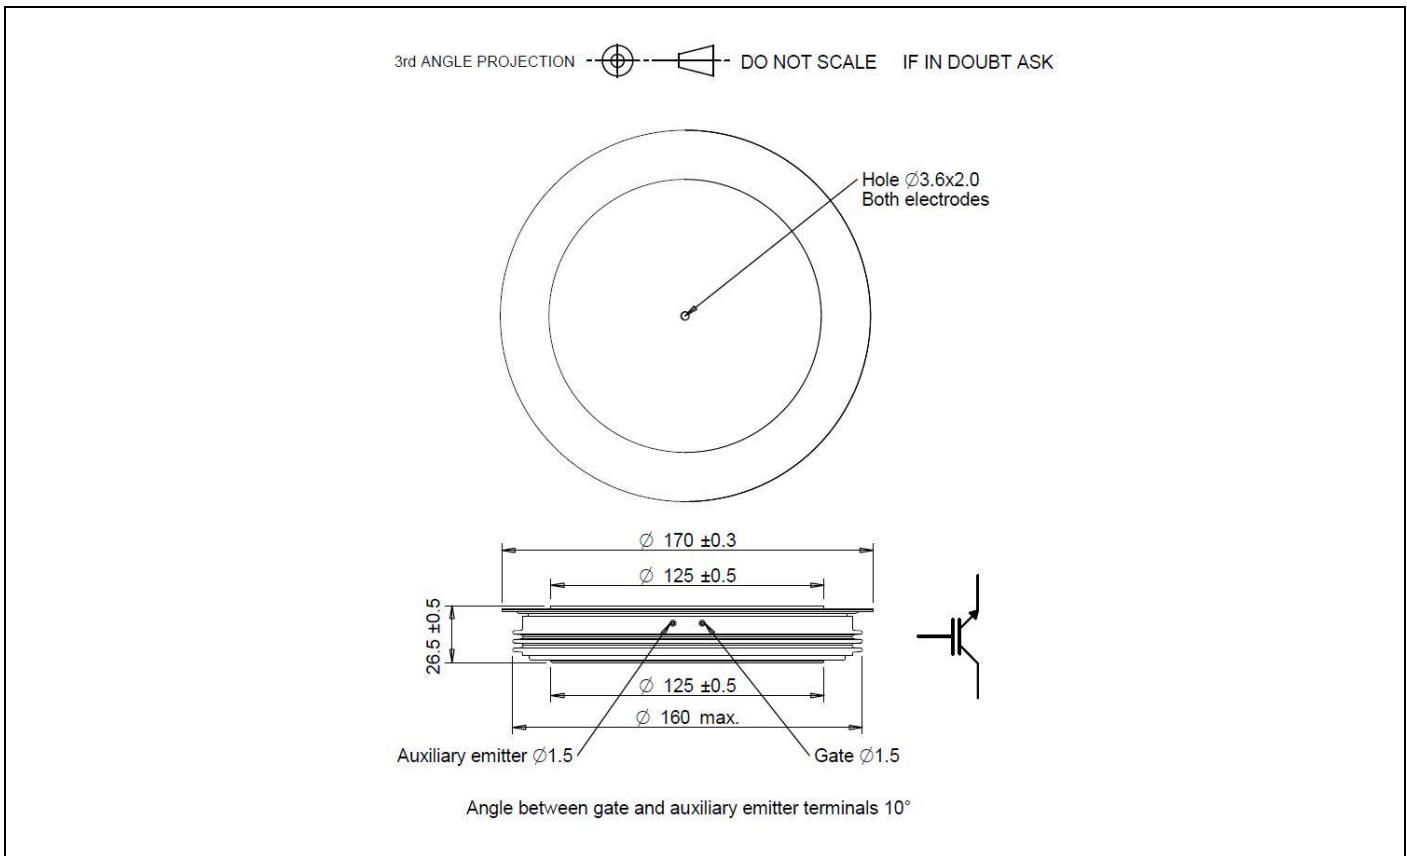

Fig. 9 Package outline
**(See Fig. 9 for further information)**